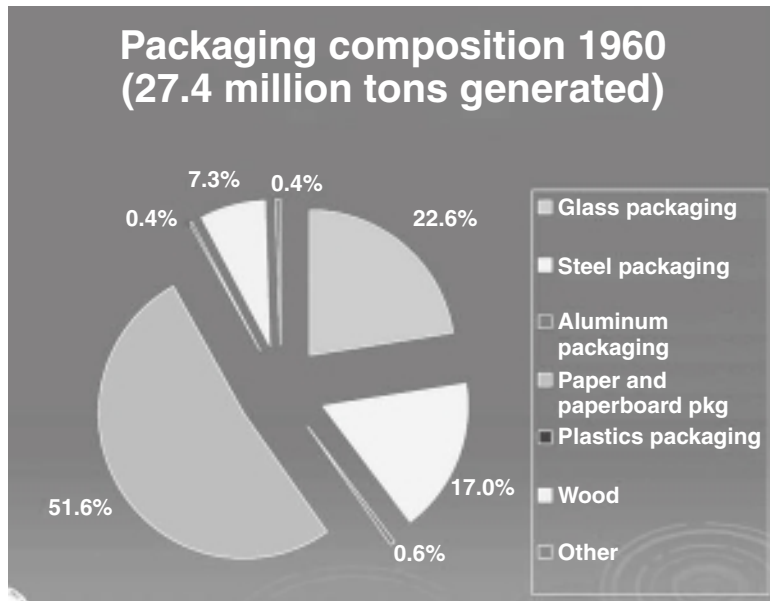

Figure 11.6
- **Electronics** Although electronics are an increasing part of our waste stream, only a small portion is responsibly recycled. Beginning in 2007, European Union (EU) citizens began taking their used computers, iPods, radios, and other electronic waste to collection points. This was in response to the EU Waste Electrical and Electronic Equipment (WEEE) Directive, which requires producers in member states to finance electronic waste take-back programs; they must also treat the waste. Electronic waste has been increasing three times faster than MSW as a whole. It is expected that WEEE will encourage producers to practice DfE: design changes in their electronic products that make for easier disassembly, recycling, or reuse.
- **Packaging** This is the largest component of US MSW, almost 32% by weight; about half is paper. Over the years, the use of glass and steel in packaging has decreased; aluminum is staying about the same. Meanwhile, plastics use, has increased dramatically. See Figure 11.6. If you examine products in US stores, you see many with unnecessary packaging. However, proper packaging performs valuable functions: on food, it reduces spoilage and the amount thrown away. In the United States, 15% to 20% of food is disposed of as